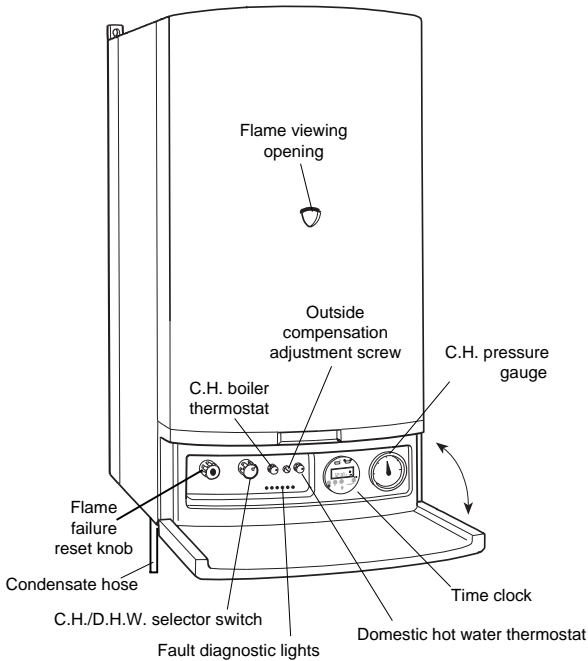

fig. 21
8.5 **To Light the Boiler** (fig. 21)